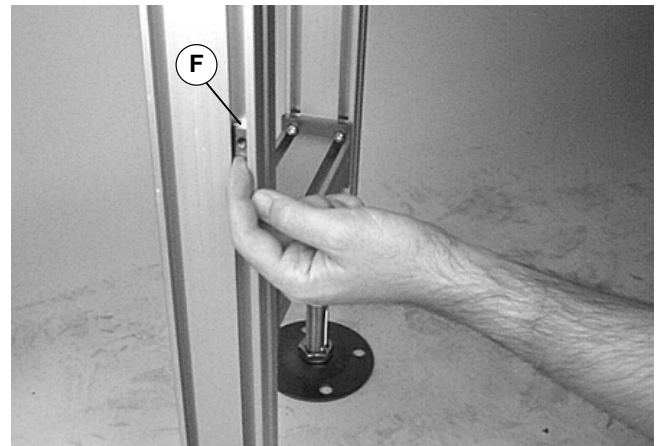

Figure 11
2. Install T-bar (F of Figure 11) in T-slot.